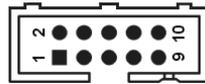

Figure 1: Connector pin numbering
When connector pin numberings are supplies, look for a square pad. This is pin 1. The connector pin numbering follows the numbering in figure 1
- Connect an oscilloscope to **pin C** of the test bench. An image similar to figure 1 should be visible.